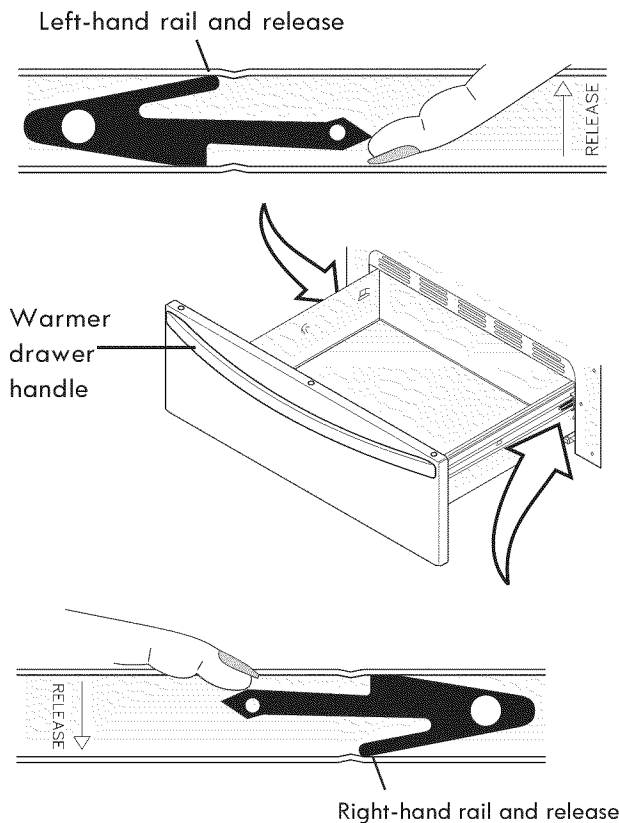

Figure 42: Removing the warmer drawer
3. On left warmer drawer rail, locate black release lever and press up with finger while pulling out slightly on the oven drawer handle. On right warmer drawer rail, locate black release lever and press down with finger while pulling out slightly on the warmer drawer handle (See Figure 42).